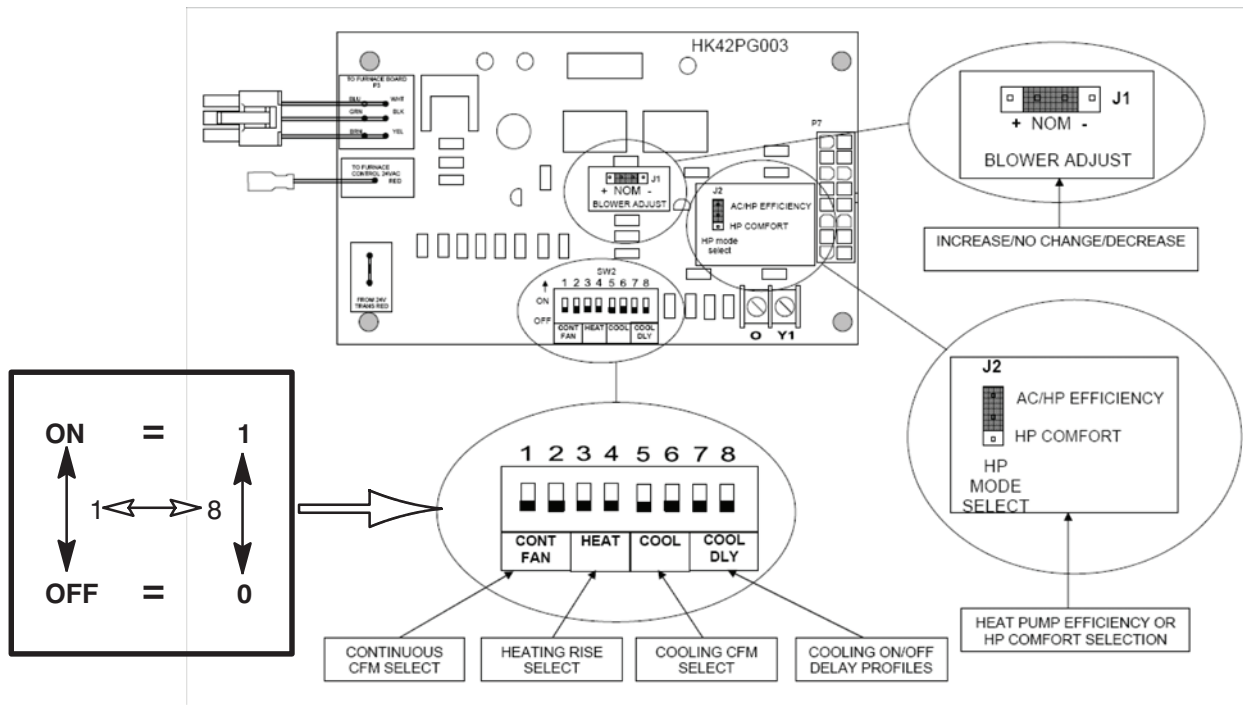

Fig. 54 - Variable Speed Tap Select Interface Board
2. The heating, cooling and continuous blower speeds can be adjusted by changing the SW2 DIP switch settings that are located on the Tap Select Interface Board (See Fig. 54).